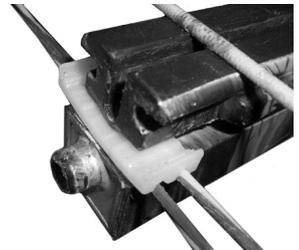

Fig. 3
- Before sliding the cable slide into the stock's flight track (**See Figure 3**) apply